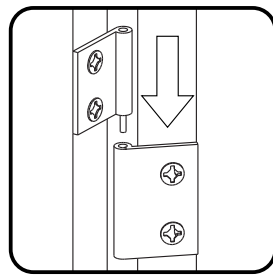

Figure 8
Attach Door (S) to unit by sliding door hinges into side panel hinges. (See Figure 8)